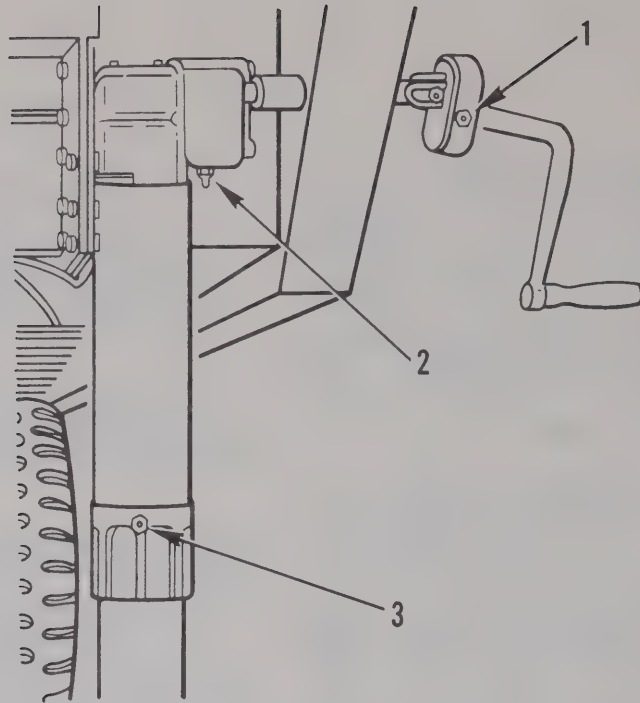

Figure 5-4. Landing gear lubrication.
- a. Fill the crank (1, figure 5-4) and gear box (2, figure 5-4) grease fittings on each landing gear with automotive lubricating grease. Wipe off all excess grease on the exterior of the grease cups and surroundings areas with a clean cloth.
b. Fill the grease fittings (3, fig. 5-4) at the bottom of the support leg housing on each landing gear with automotive lubricating grease until the grease appears at the bottom of the housing.